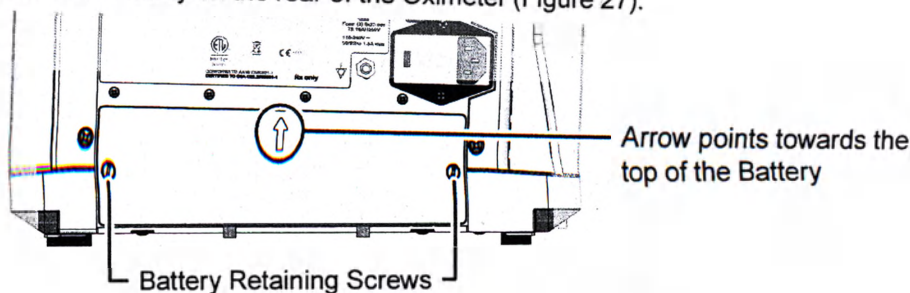

Figure 27: Battery Compartment
2. Locate the Battery on the rear of the Oximeter (Figure 27).